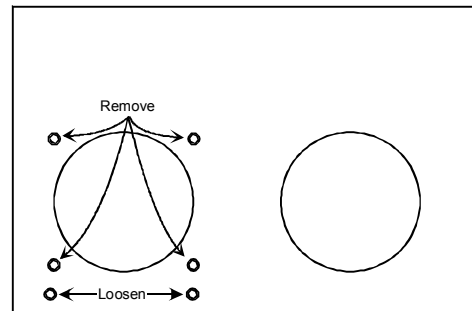

Figure 5 - Duct Removal
To ensure proper operation, ensure the blower motor is oriented as shown in Figure 5 for horizontal airflow installations.
2. From the rear of the unit, remove the four screws securing the blower assembly in place and loosen the two screws directly below the duct opening (Figure 5).
NOTE: To keep condensate from collecting inside the blower motor, ensure the motor is oriented with its leads exiting at the bottom of the motor (Figures 5 and 6).